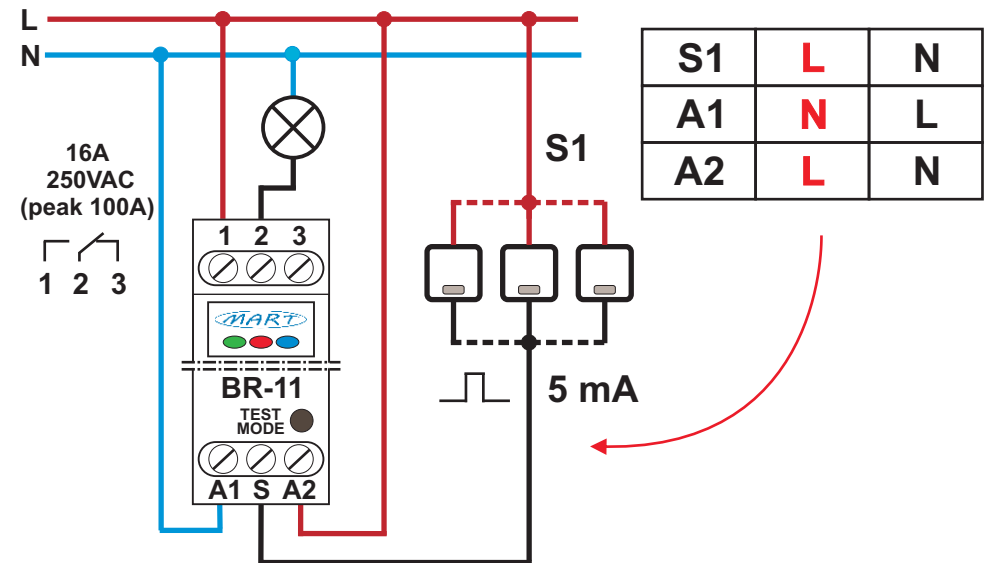

Fig .1 .An exemplary diagram of the connection of the BISTABLE RELAY BR-11 along with a table of possible connection variants .
2. connect the BISTABLE RELAY BR-11 according to the diagram (fig.1, fig.2) in the options: